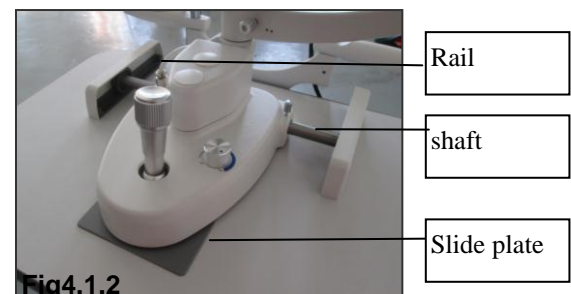

Fig.4.1.2
- ② **Cleaning the sliding pad, rails and shaft:** Clean these parts with clean soft cloth regularly to ensure the stable movement of slit lamp. (Fig.4.1.2).